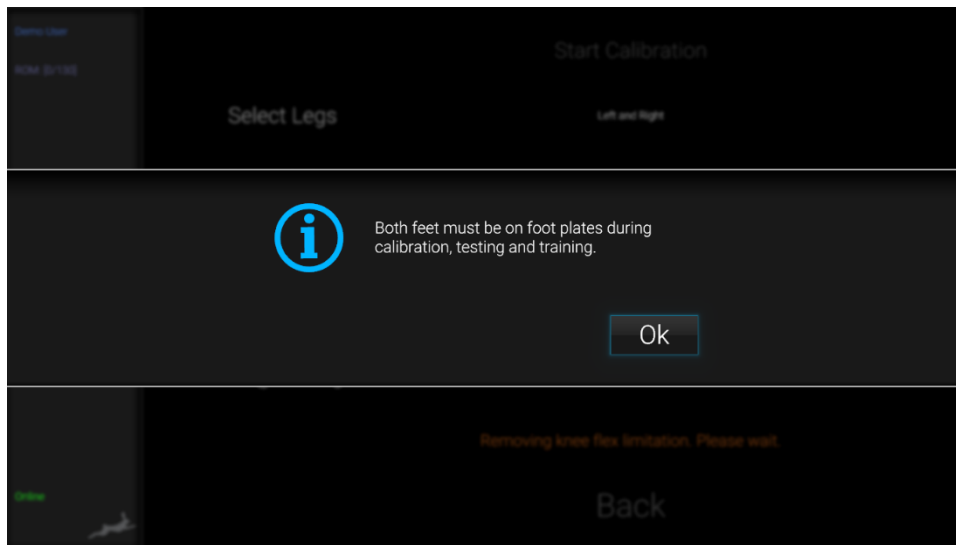

**Figure 14:** Make sure that both feet are on the footplates during calibration!
**NOTE:** Both feet must be on the footplates during the calibration (Fig. 14).